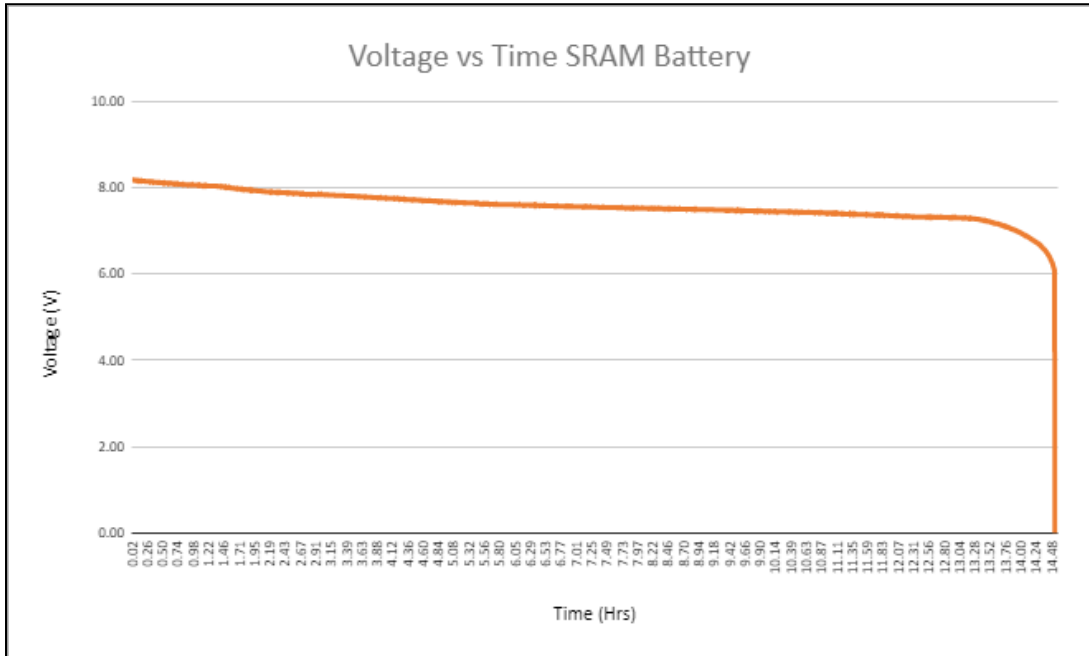

Figure 1
1. Tested battery by simulating a gear shift every 30 seconds per shift, which translates to 470 mA per shift. This test determined the SRAM battery enables the derailleur to operate for approximately 13.7 hours. *Figure 1* is a graph of voltage vs. time which corresponds to this part. As seen in the graph, when the voltage reaches 6 V, there is a hard cut-off due to the battery protection.